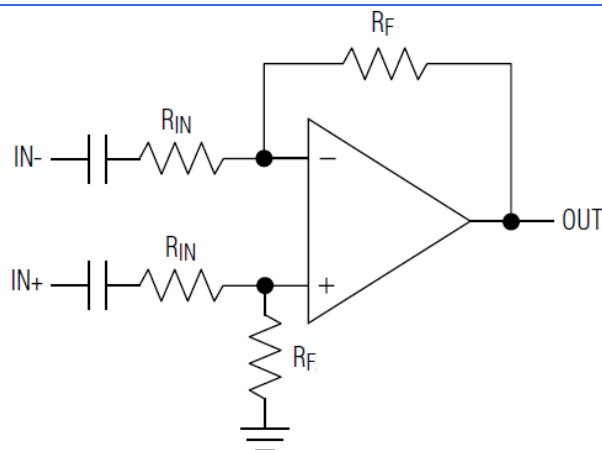

Fig. 2 Differential Input Configuration
The IC can be configured as differential or single-ended input amplifiers (Figures 2 and 3), making it compatible with all codecs. A differential input offers improved noise immunity over a single-ended input. In devices such as cellular phones, high-frequency signals from the RF transmitter can couple into the amplifier's input traces. The signals appear at the amplifier's inputs as common-mode noise. A differential input amplifier amplifies the difference of the two inputs while signals common to both inputs are cancelled. The gain of the HT97180(L) is set by: